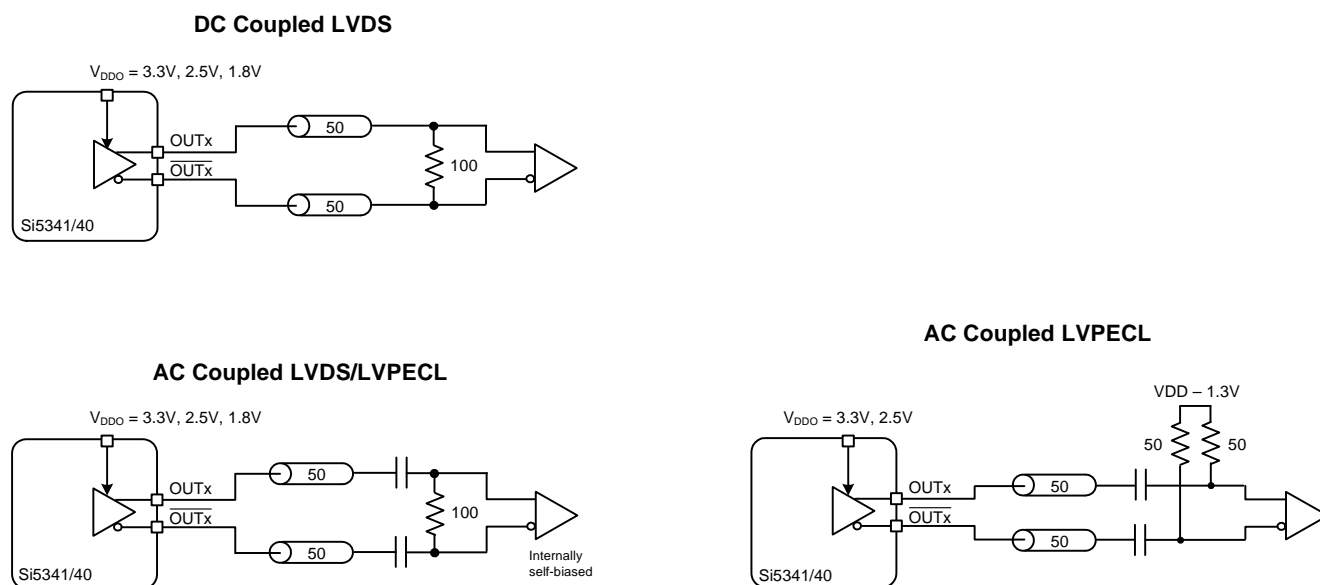

Figure 10. Supported Differential Output Terminations
The differential output drivers support both AC coupled and DC coupled terminations as shown in Figure 10.
- Differential Normal Swing Mode:** When an output driver is configured in normal swing mode, its output swing is selectable as one of 7 settings ranging from 200 mVpp_{se} to 800 mVpp_{se} in increments of 100 mV. The output impedance in the Normal Swing Mode is 100Ω differential. Any of the terminations shown in Figure 10 are supported in this mode.
- Differential High Swing Mode:** When an output driver is configured in high swing mode, its output swing is configurable as one of 7 settings ranging from 400 mVpp_{se} to 1600 mVpp_{se} in increments of 200 mV. The output driver is in high impedance mode and supports standard 50Ω. PCB traces. Any of the terminations shown in Figure 10 are supported in this mode.